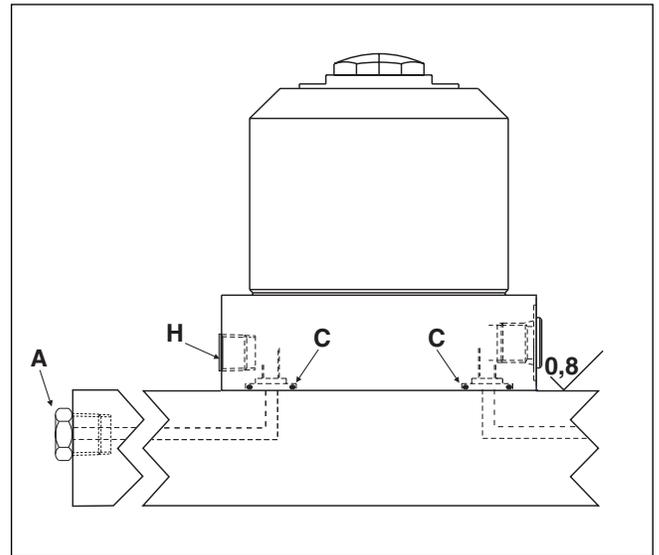

Figure 3 - Venting through manifold port / Hydraulic manifold mounting
3. Hydraulic connections can be made at the side port or at the manifold port. If making hydraulic connections at the manifold port, the port screw plug and copper gasket must first be removed from the hydraulic manifold port (item D). Lightly lubricate the provided O-ring (item C) and install it in the counterbore around the port prior to mounting and bolting down the work support (see figure 3). Be sure that the O-ring does not get pinched or damaged during this mounting as leakage could result. To ensure that the manifold mounting does not leak, provide a fixture mounting surface with a flatness within .003 inch (0,08 mm) and a surface roughness average (R_a) not to exceed 32 $\mu\text{in.}$ (0,8 μm).
2. Venting can also be achieved using the optional manifold breather port (see figure 3).